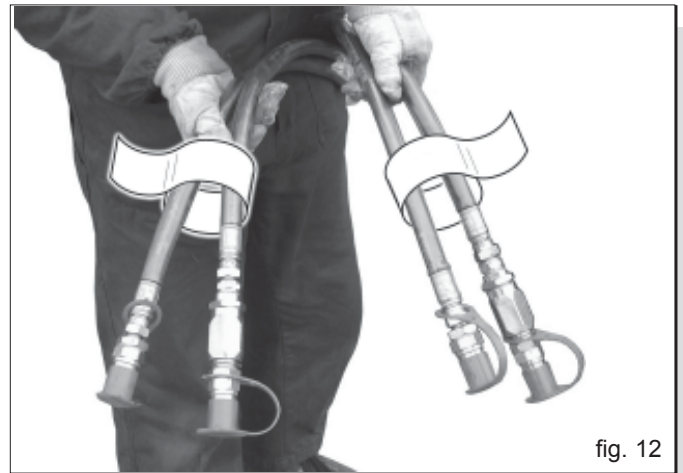

fig. 12
- 6) The hydraulic pipes must be connected correctly to the tractor distributors (see chapter 3.1) following the instructions on each pipe (Fig. 12).